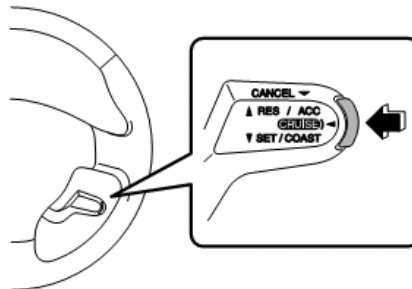

Figure 4 – Pressing the "CRUISE" button
- b. Press and hold the **CRUISE** button (See *Figure 4*) for approximately three (3) seconds until the indicator lights stop flashing.